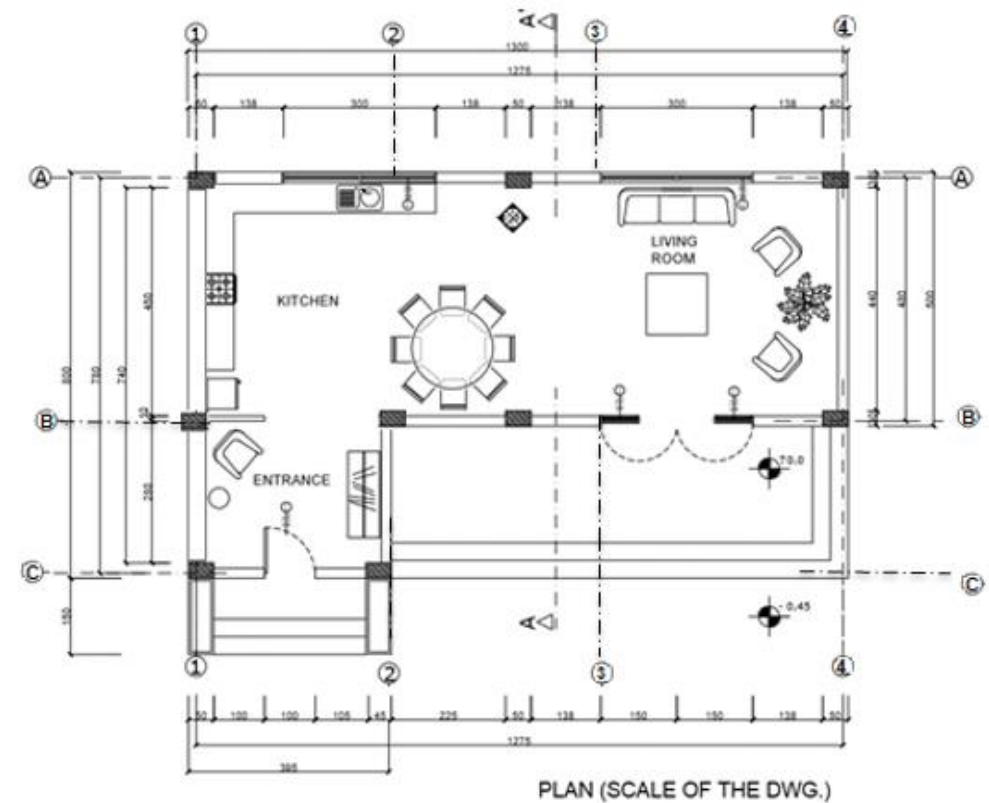

Fig.2.1. Plan Example
- Indicate scale of the drawing. (Fig.2.1.)